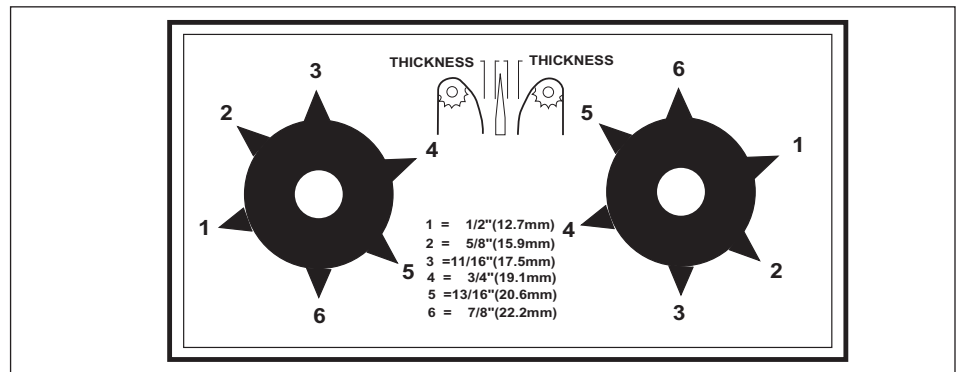

Figure 4. Bun Thickness Compression Knobs
1. Set the Bun Thickness Compression Knobs (Figure 4) to the desired settings.
**NOTE:** The Bun Thickness Compression Knobs (Figure 4) must be set to “6 & 6” or “6 & F” prior to measuring or removing or reinstalling the Conveyor Belt Chains.